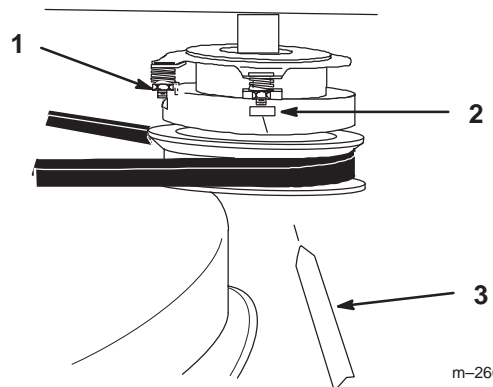

Figure 47
1. To adjust clutch, tighten or loosen lock nuts on flange studs (Fig. 47).
2. Check adjustment by inserting feeler gauge through slots next to studs (Fig. 47).